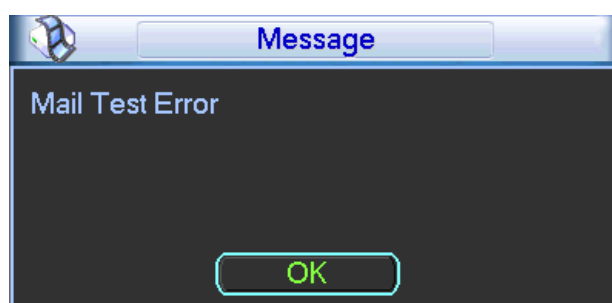

Figure 6-46
- Interval: Please check the above box to enable this function and then set the corresponding interval. System can send out the email regularly as you set here. Click the Test button, you can see the corresponding dialogue box to see the email connection is OK or not. See Figure 6-46.